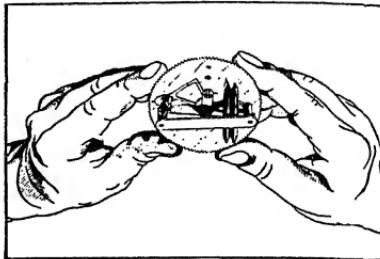

FIG. 6.—Freeing the link from the ar.
**Taking the Mechanism Apart.** Take out the small bearing that holds the end of the link to the adjustment arm. This frees the link from the arm as in Fig. 6. Do not touch the screw holding the arm in position.